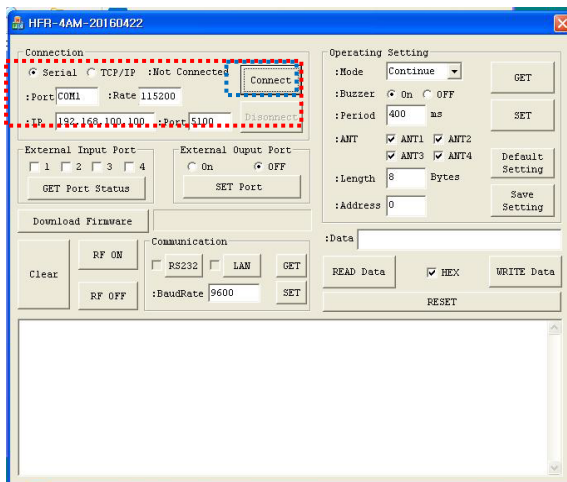

Figure 1
2. Run the program and click "Connect" tab after setting as shown in "Figure 1".